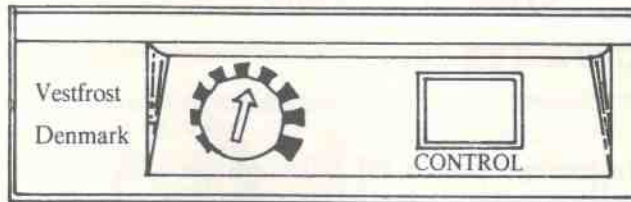

Fig. 15
- (b) If it is observed that the cabinet temperature remains steady at a **higher** temperature than the required range of + 2° to + 8°C, turn the thermostat knob clockwise to a higher setting (Fig: 15).